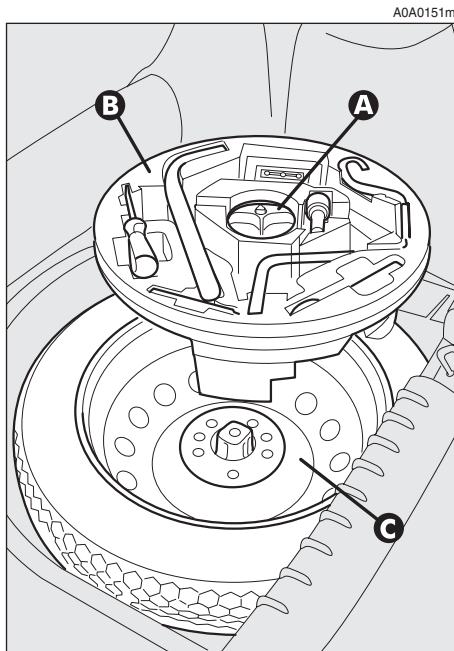

fig. 3
– Use the handle (A) to remove the piece of stiff cover (B).
– Loosen the clamping device (A-fig. 3).
– Take out the tool container (B) and take it near the wheel to be changed.
– Take the spare wheel (C).
– stow the container complete with tools on the spare wheel and secure every thing with the clamping device (**A-fig. 3**)